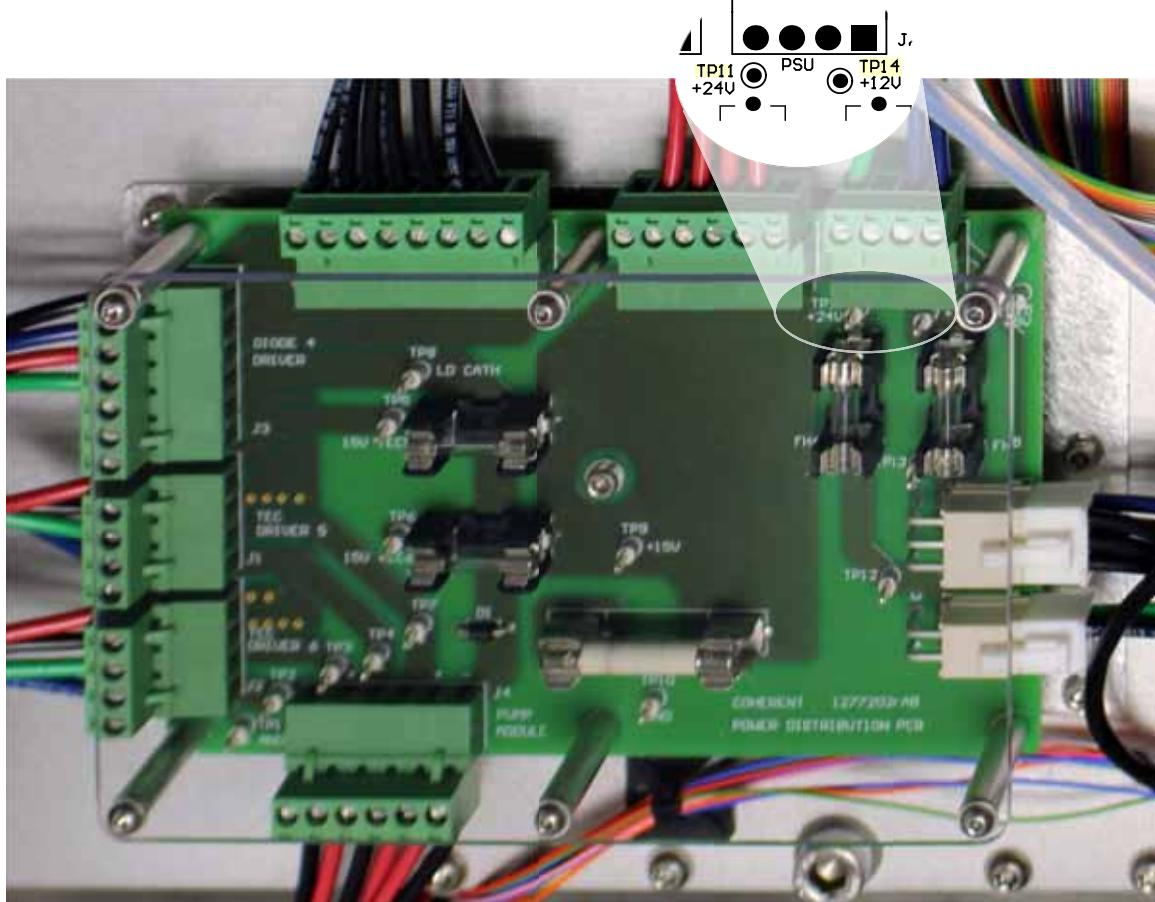

Figure 2.1-5. TP 11 and TP 14 Locations
- Probe the voltages on the power distribution board to make sure the correct voltages are present. See Figure 2.1-5. If the voltages are with in range, then it would suggest there is an issue with pump head board.
- Probe the voltages on the power distribution board to make sure the correct voltages are present. See Figure 2.1-5. If the voltages are within range, then it can suggest there is an issue with pump head board.